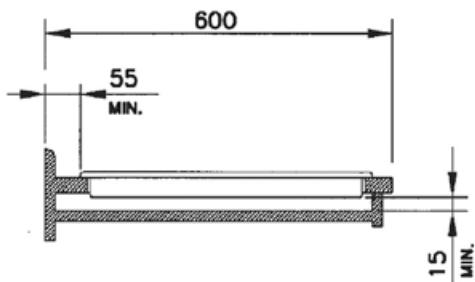

Fig. 8a
4. The required dimensions of the built-in hole in the worktop are on Fig. 7a, 7b. Allow a side gap of at least 150 mm (Fig. 8a, 8b). Allow a rear side gap between the appliance and the wall of at least 55 mm.